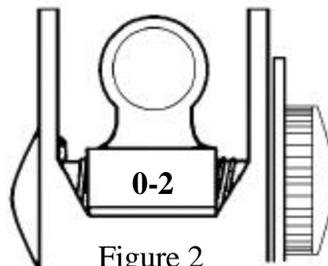

Figure 2
3. When a shooter is firing at close range, at moving targets, or in low visibility, the short-range (0-200 meter) aperture should be used (see figure 2). For the CRC course, the short-range aperture is used when moving from the 25-yard line up to the 15-yard line.